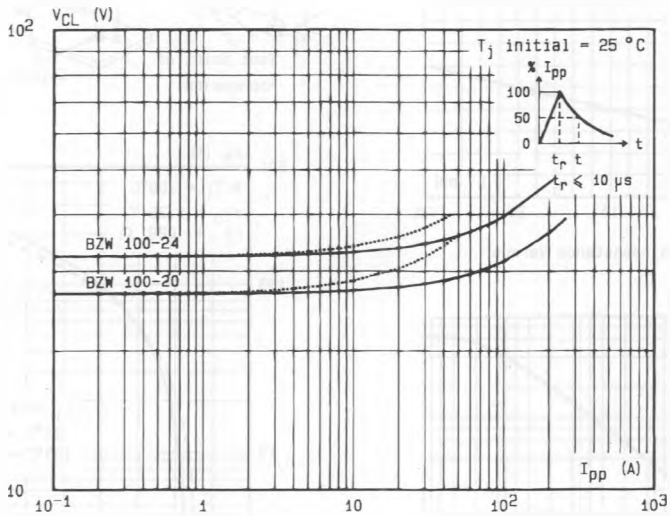

Fig.2 - Clamping voltage versus peak pulse current
Note : The curves of the figure 2 are specified for a junction temperature of 25 °C before surge. The given results may be extrapolated for other junction temperatures by using the following formula : $\Delta V (BR) = \alpha T (V (BR)) \times [T_j - 25] \times V (BR)$